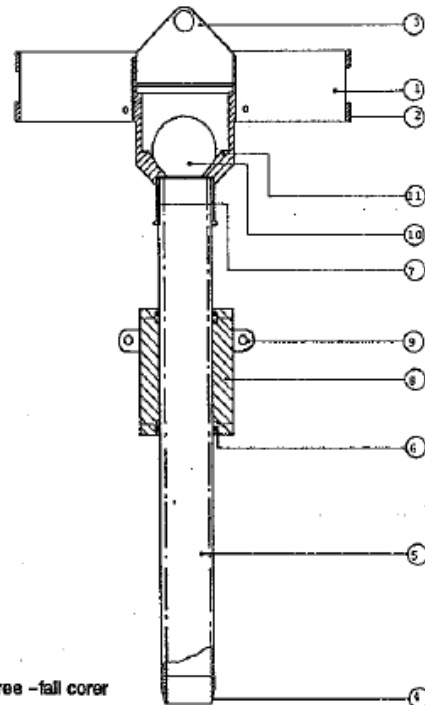

Fig. 1 Free -fall corer
The free-fall corer consists of a frame (1) with strengthening ribs (2), falling weight (8) and sampler (see fig. 1). The apparatus is fastened by means of a lifting eye (3) to an hoisting unit with free-fall facility. The tube holder (7) contains the sampler (4) with